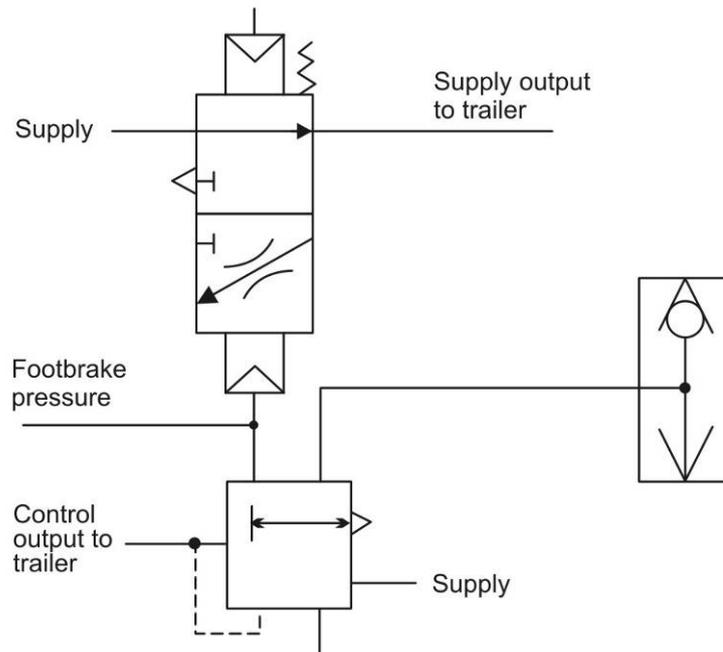

Figure 51 Break-away Valve
**104. Break-away Valve.** The break-away valve (Figure 51) ensures that the trailer brakes are applied automatically if the control signal line fails or is disconnected. The break-away valve compares the service brake valve signal pressure with the control signal pressure; if a difference of 450 kPa is detected, the break-away valve operates. The trailer brake supply pressure is exhausted through a throttle valve and the trailer brakes are applied. The throttle valve ensures that the trailer brakes are applied rapidly, but not instantaneously.